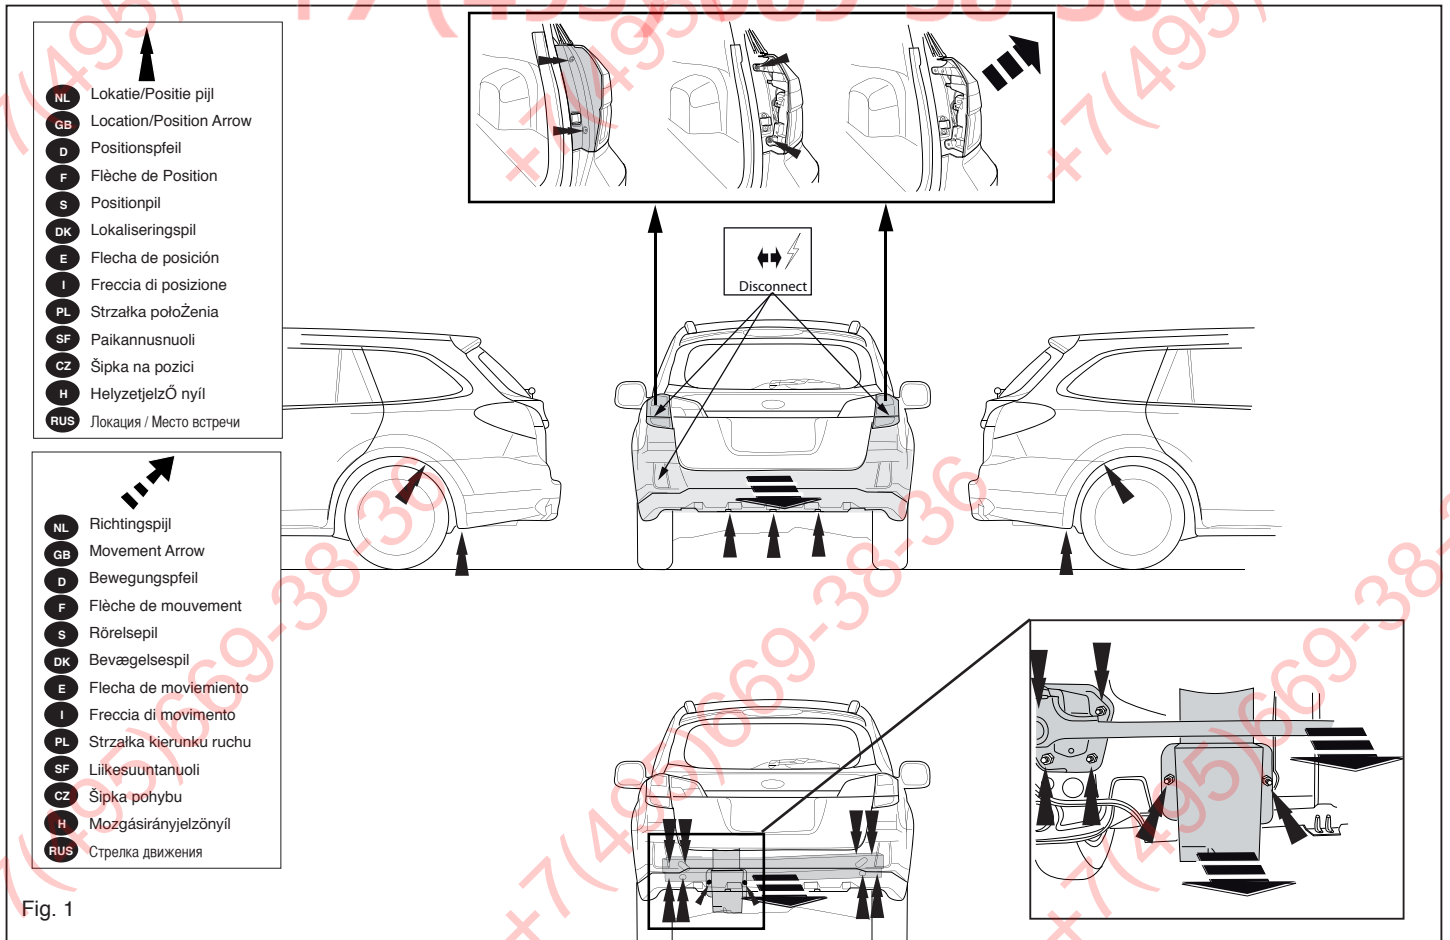

Fig. 1
1. Remove the bumper. See figure 1.
2. Remove the cross member from the vehicle. See figure 1.